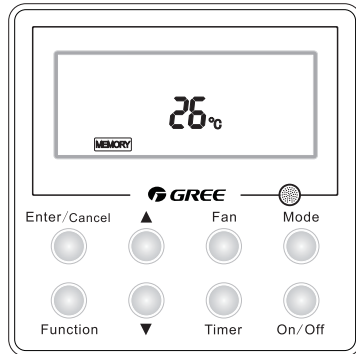

Fig.5 “Off” Status
- Fig. 5 is the “Off” status when the unit is powered on. Fig. 6 show the “On” status when the unit is powered on.